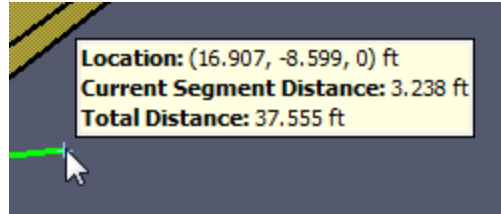

Figure 100. Information displayed by the measure tool
2. Either click several points to measure the total distance along a path or click-drag to measure a single distance between two points. As the cursor is moved, the current cursor location, total path length, and length of the most recent segment are displayed as shown in Figure 100.